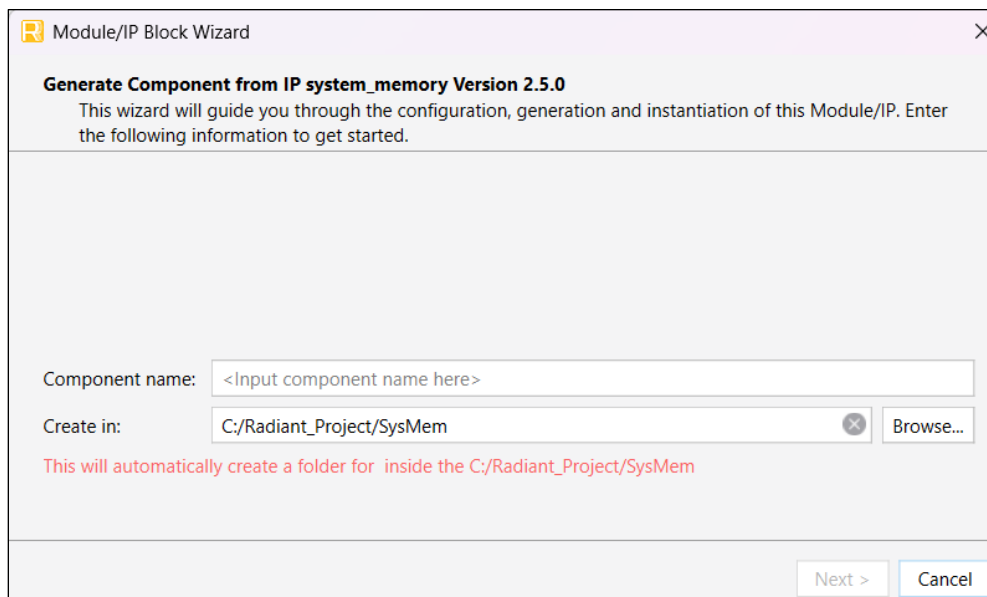

Figure 7.1. Module/IP Block Wizard
2. In the **IP Catalog** tab, double-click **System Memory** under **IP, Processors, Controllers, and Peripherals** category. The **Module/IP Block Wizard** opens as shown in Figure 7.1. Enter values in the **Component name** and **Create in** fields, then click **Next**.
- Click **Finish**. The generated files are placed under the directory paths specified in the **Create in** and the **Component name** fields, as shown in Figure 7.1.